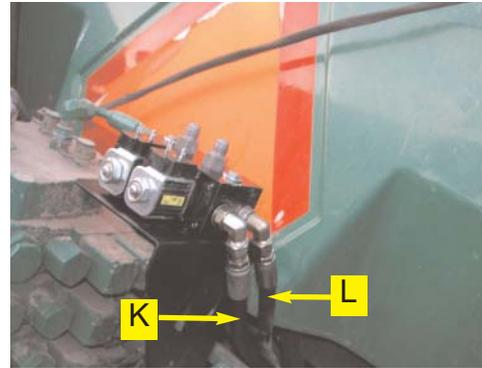

Figure 4a. Installed pressure and tank hoses at Automated Steering Block.
Connect the pressure hose (K) from the pressure fitting installed in step 3 to the P port on the Automated Steering Block. Connect the tank hose (L) from the adapter fitting on the side of the pump, as installed in step 3 to the T port on the Automated Steering Block. (Figure 4a., 4b., and 4c.)